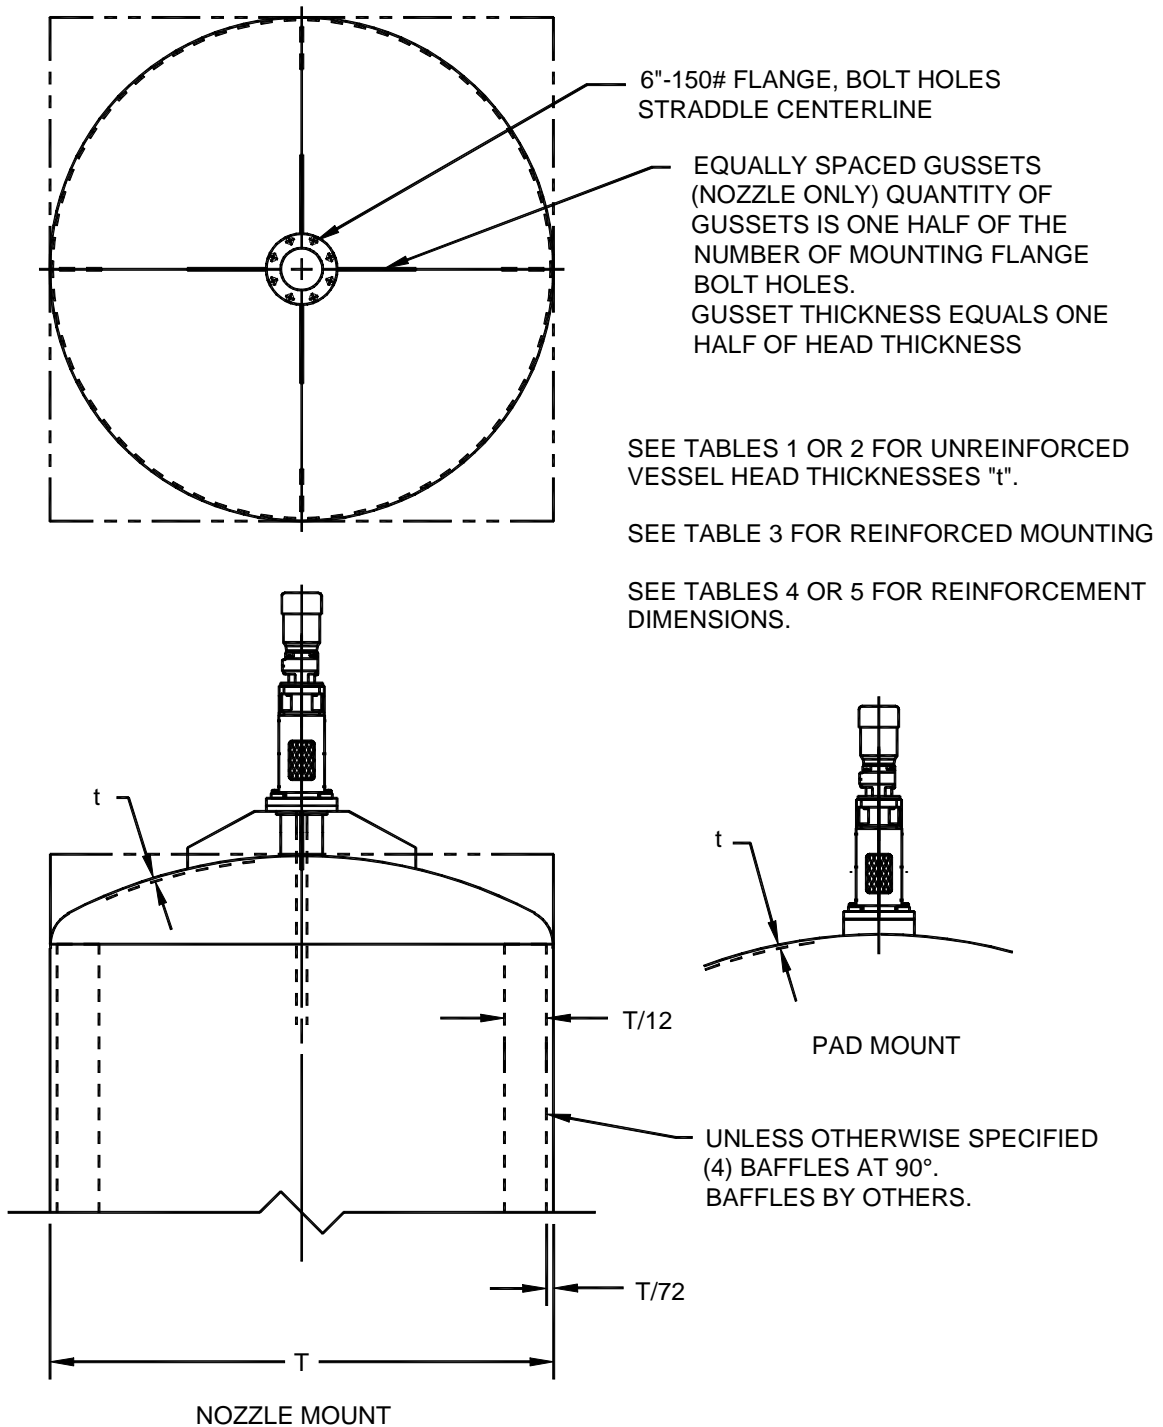
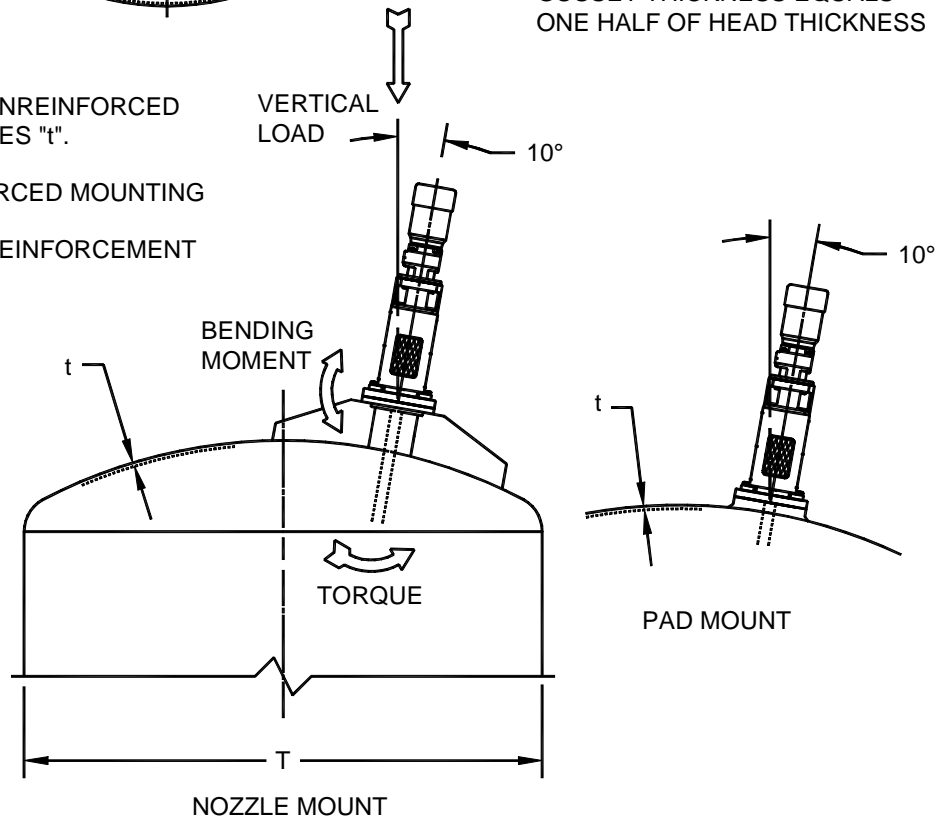

Figure 1: Models DTA, DTL Installation
Figure 7: Angle Mount Installation
- If the designated vessel top head **does not** meet *Table 1 or Table 2* criteria, reinforcement support may be added to provide the equivalent rigidity of a thicker head, providing that the existing head thickness meets the minimum thicknesses as noted in *Table 3, below*, for nozzles or pads. Reference *Figure 1, page 5*.
Model DTA and DTL mixers may be angle mounted. See *Figure 7, page 14* for mixer nozzle location. See *Figure 1, page 5* for structural requirements.